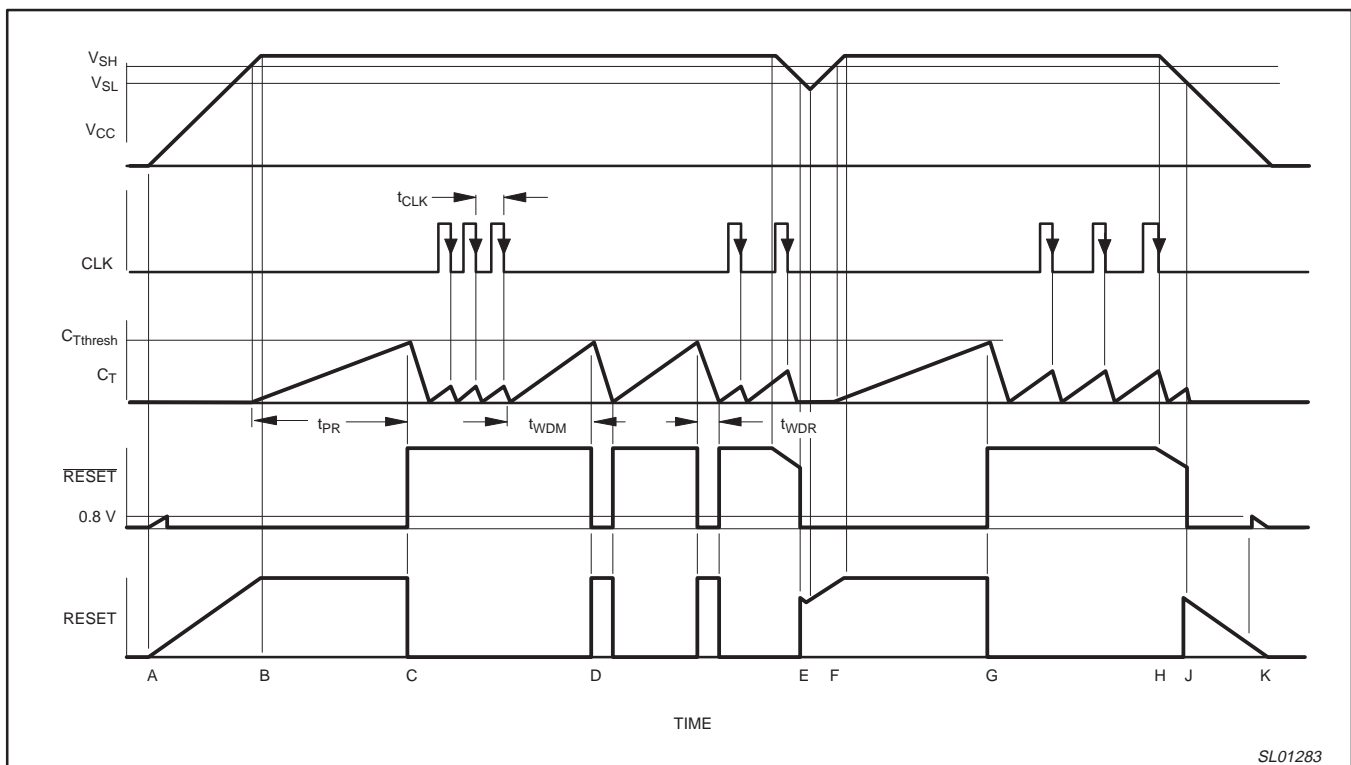

Figure 18. Timing diagram.
- 'Watchdog monitoring time' is the duration from the last pulse (negative-going edge) of the timer clear clock pulse until reset output pulse occurs (see Figure 18). A reset signal is output if a clock pulse is not input during this time.
- 'Watchdog reset time' is the reset pulse width (see Figure 18).
The timing diagram shown in Figure 18 depicts the operation of the device. Letters indicate events on the TIME axis.